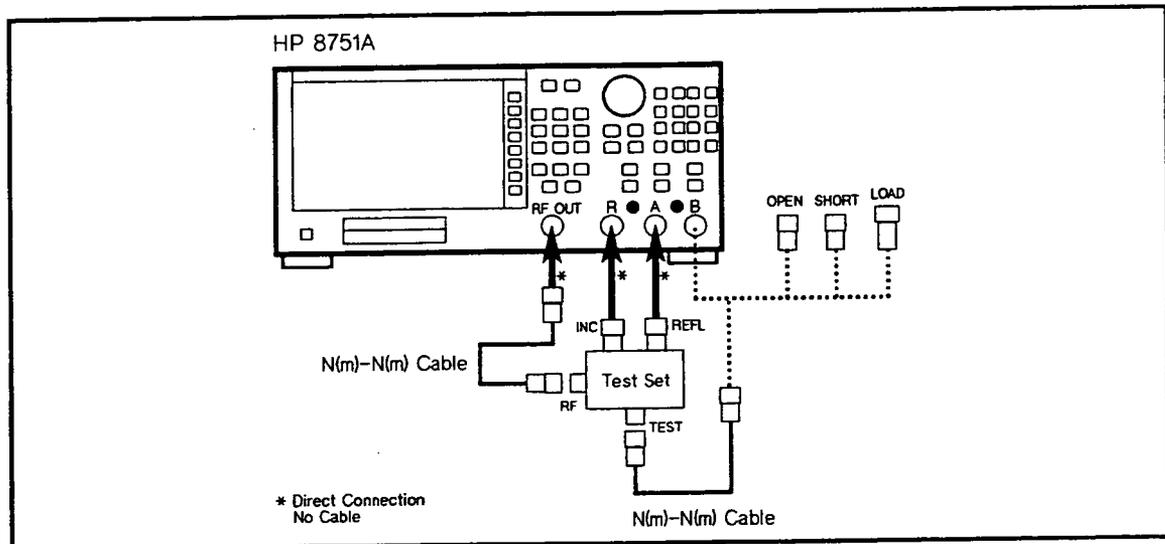

Figure 1-4. Input B Impedance Test Setup
- a. Connect the equipment as shown in Figure 1-4.